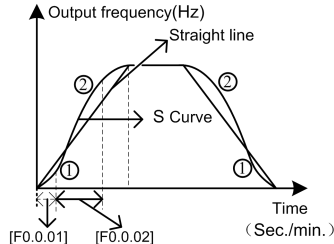

Figure 7-24 Acceleration and deceleration curve
As shown in item ① in Figure 7-24, the acceleration starting/deceleration ending period of S curve is indicated by the percentage of the total acceleration and deceleration time.
As shown in item ② in Figure 7-24, the acceleration rising/deceleration decreasing period of S curve is indicated by the percentage of the total acceleration and deceleration time.